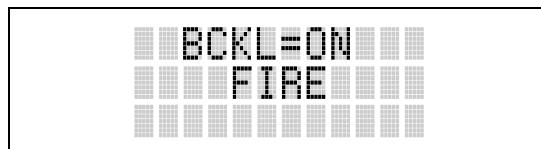

Figure 11-7: Backlight Menu Display
3. Press \textcircled{M} . The backlight menu item is activated. Line one shows the active menu item and its current parameter setting. Line two shows the currently selected system or group name (see Figure 11-7).